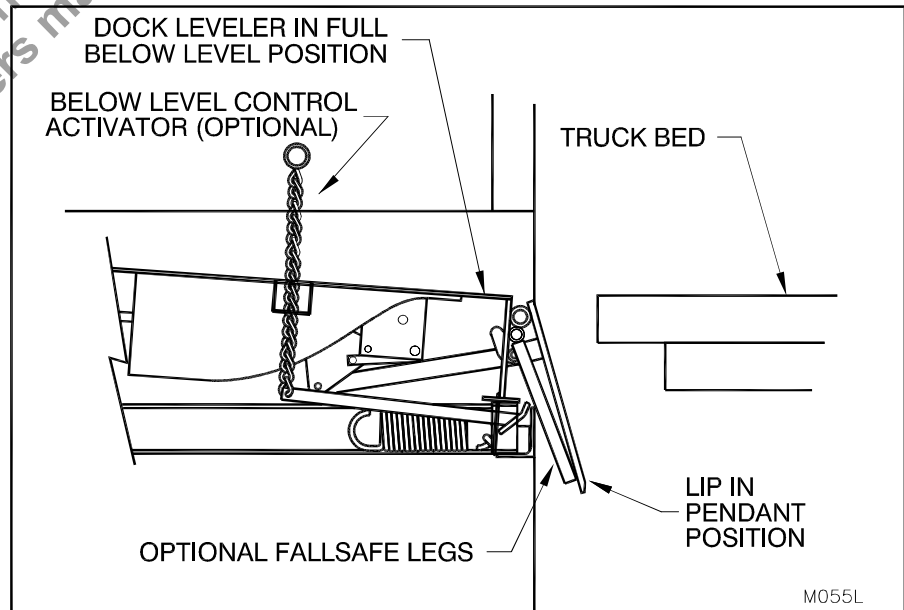

Figure 50: Below Level End Loads
2. Pull the optional Below Level Control activator. Walk forward on the dock leveler while continuing to pull the handle until your weight forces the dock leveler to lower to the fully below dock level position. (See "Figure 50: Below Level End Loads" on page 39)